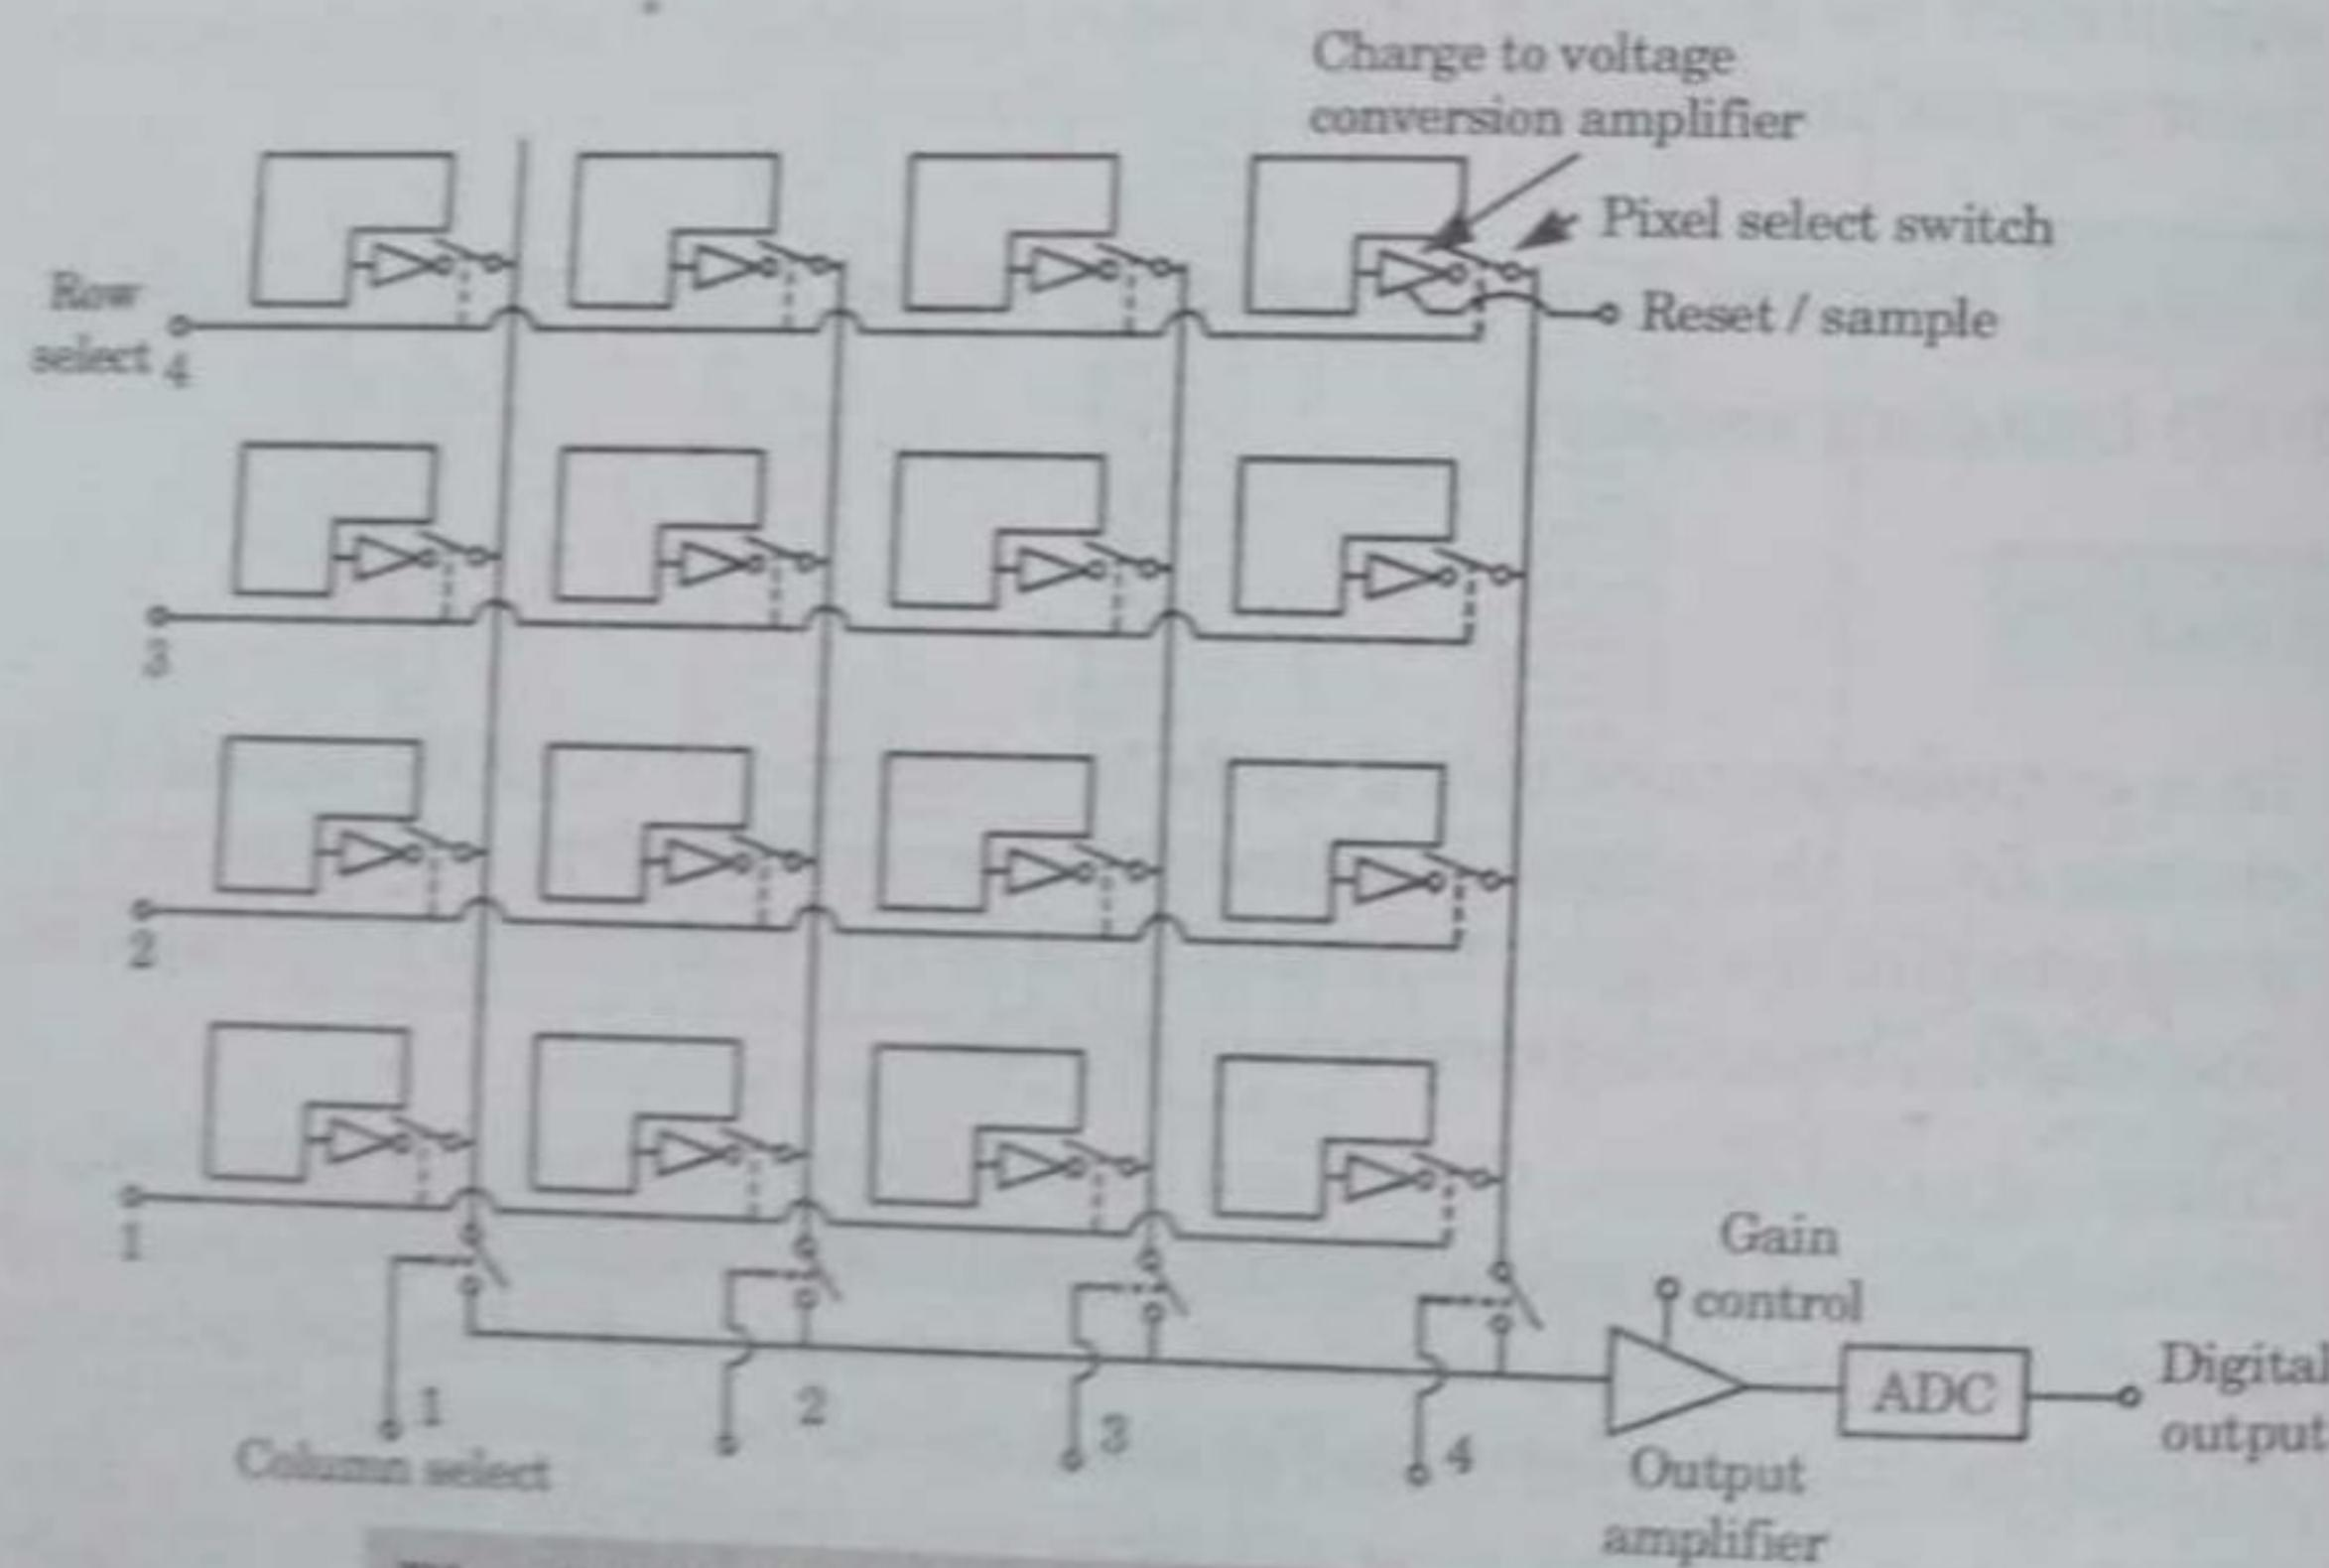

Fig. 3.5.1. Block diagram of a Complementary Metal Oxide Semiconductor (CMOS).
2. Inherent to its design, CMOS is a digital device. Each site is essentially a photodiode and three transistors, performing the functions of resetting or activating the pixel, amplification and charge conversion, and selection or multiplexing as shown in Fig. 3.5.1.